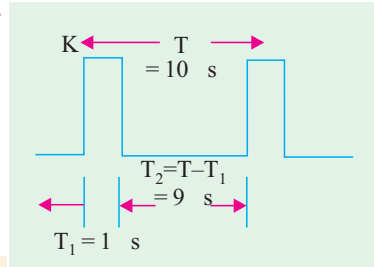

Fig. 65.29
**Solution.** Fig. 65.29 shows the waveform to be generated by the astable multivibrator. Note that the desired pulse width is actually the time interval  $T_1 = 1\text{ }\mu\text{s}$  and the time period  $T$  which equals  $10\text{ }\mu\text{s}$  (i.e.  $1/100\text{ kHz}$ ) is the desired repetition time.